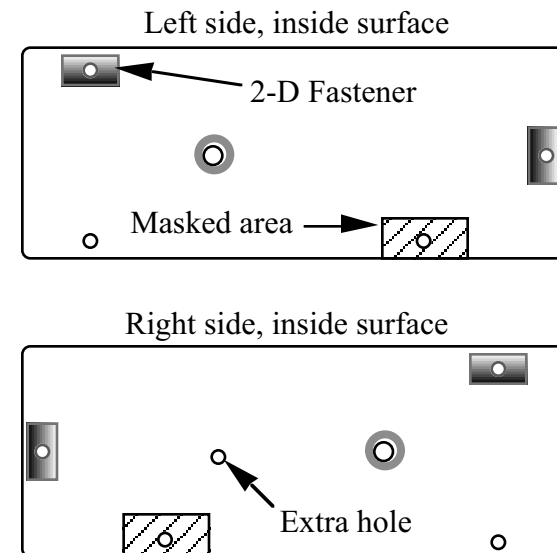
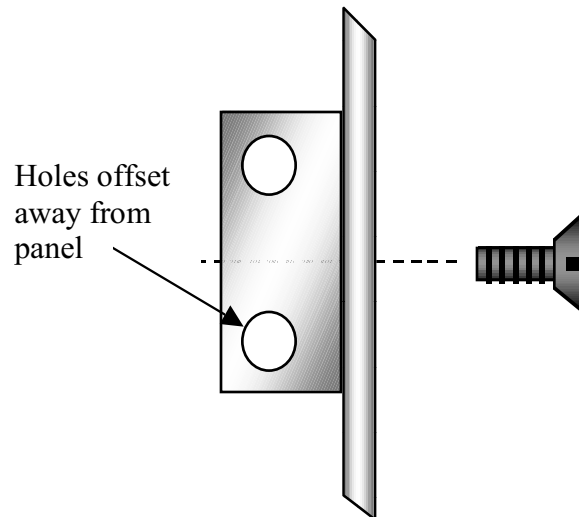

Figure 6-10
Figure 6-11
- ☐ Locate the two side panels and arrange them as shown in Figure 6-10, with the inside surfaces facing up. The right side can be identified by the presence of an extra hole as shown. The illustration also shows where 2-D fasteners will be installed, as well as the areas which were masked during painting.
Attach two 2-D fasteners to each side panel at the locations indicated in Figure 6-10. (Make sure that the holes are countersunk; if not, you may be working with the wrong side of the panel.) Use one 3/16" (4.8 mm) flat-head screw to hold each 2-D fastener to the side panel (Figure 6-11). The two unused holes on each fastener must be offset *away* from the side panel as shown.